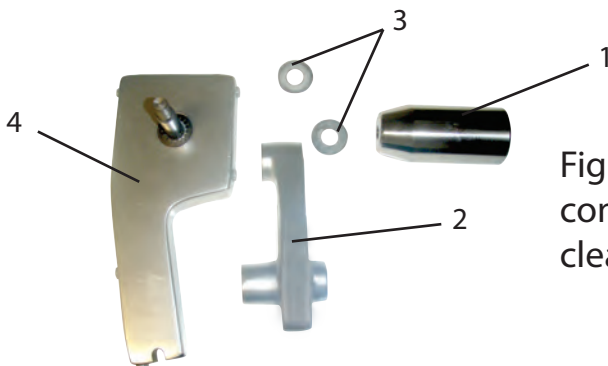

Figure 3
g. Last Slice Device: Unscrew the knob (Figure 3 [1]) and detach the support (Figure 3 [2]) and gaskets (Figure 3 [3]) from the Last Slice Device (Figure 3 [4]). Set items aside for cleaning.